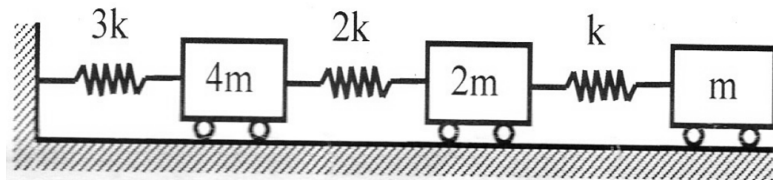

Fig.5, Q. No.10
- 10. Determine the natural frequencies of the system shown in Fig.5, Q. No. 10 by using Holzer's method. 20